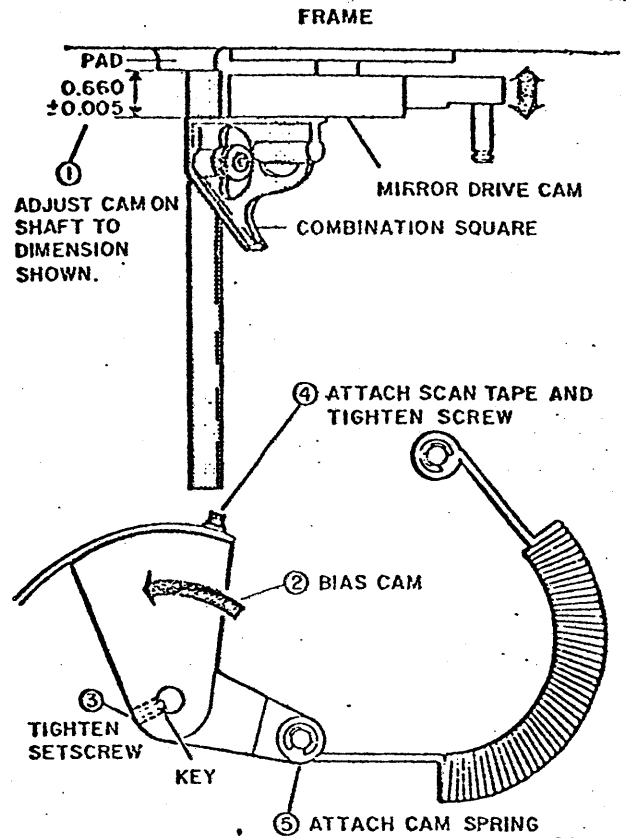

Fig. 3-5. Mirror Drive Cam
5. Install the mirror drive cam, scan tape, and drive cam spring (Fig. 3-5).